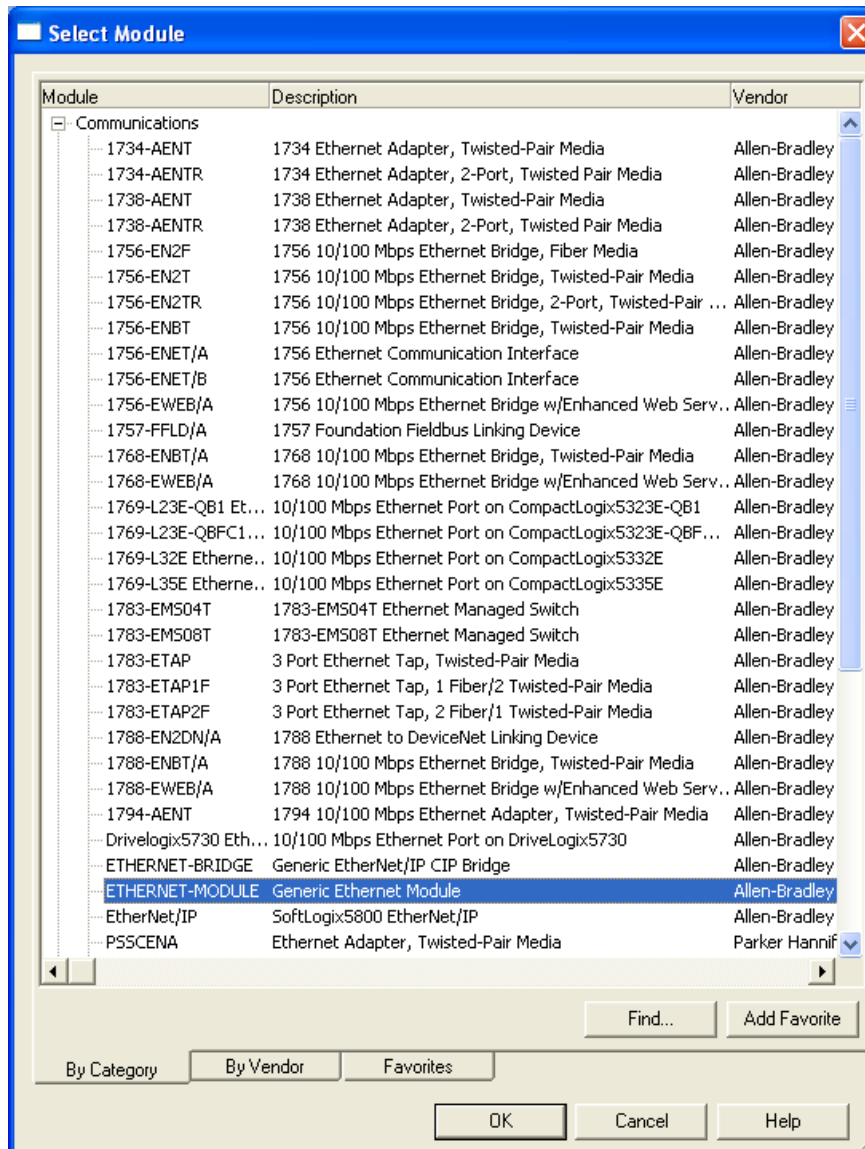

Figure 4-2: Selecting Module Type
3. Select "ETHERNET-MODULE" under "Communications" and click OK (Figure 4-2: Selecting Module Type)